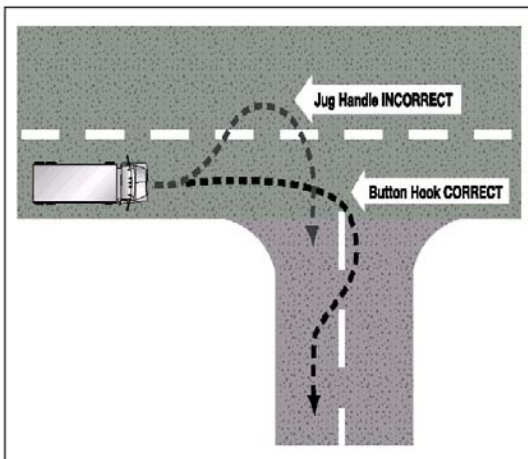

Figure 3.13
- If you must cross into the oncoming lane to make a turn, watch out for vehicles coming toward you. Give them room to go by or to stop. However, don't back up for them, because you might hit someone behind you. See Figure 3.13.